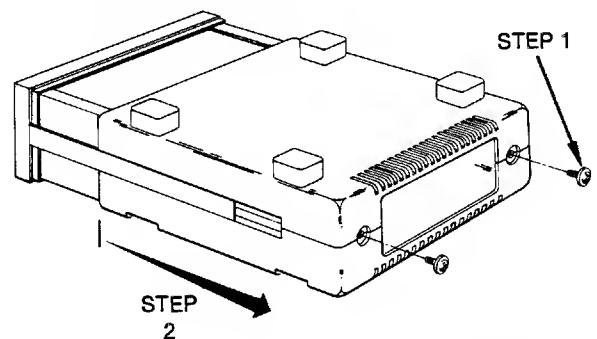

Figure 2-1. Top and Bottom Cover Removal
To verify the line voltage (or change the fuse), the operator must first remove the top and bottom covers. Remove the top and bottom using the following steps and figure 2-1.
- 5. Secure covers to the chassis assembly using two screws as shown in figure 2-1.